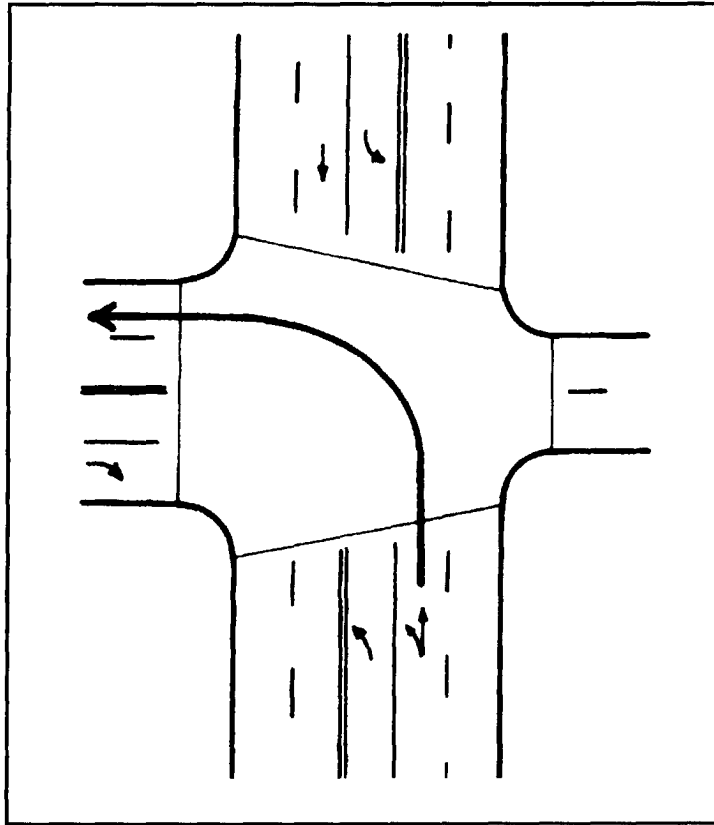

Figure 2-6. Using left-turn lanes
- If there are two turning lanes, always take the right-hand turn lane (see Figure 2-6, page 2-14). Do not start in the inside lane because you may have to swing right to turn. You may be unable to see drivers to your rear and may crash into them.